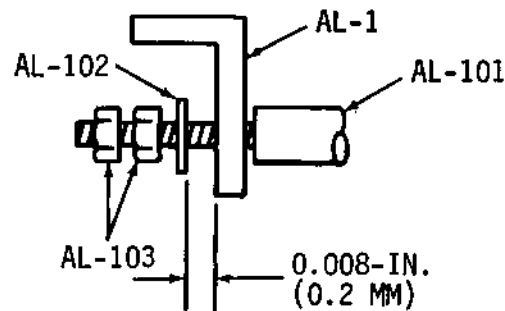

Figure 5-18. RIBBON FEED PLATE AND GUIDE BAR (LEFT SIDE)
- a. Ribbon Feed Bar - Left Side (Fig. 5-18)
- (1) Loosen both nuts (AL-103) on left side of ribbon feed bar.
- (2) Establish a gap of 0.2 mm (0.008-in.) between washer (AL-102) and ribbon feed plate (AL-1).
- (3) Tighten nuts (AL-103) up to washer while holding gap at the same time.